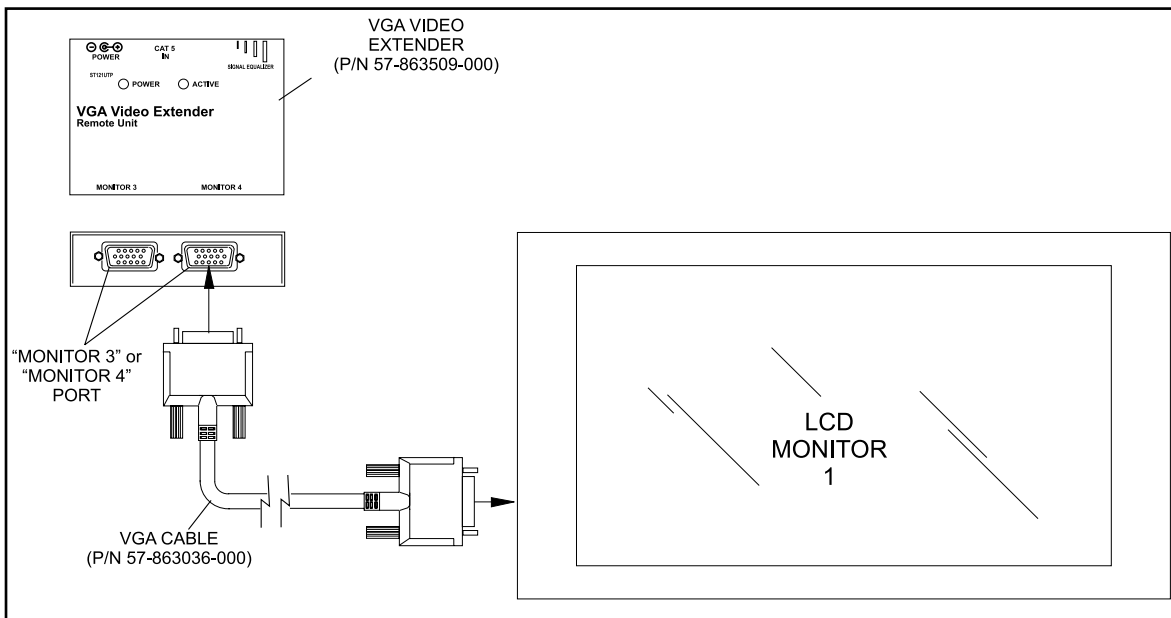

Figure 4. VGA Cable
4. Connect the VGA Cable (P/N 57-863036-000) to “MONITOR 3” on the VGA Video Extender. Refer to *Figure 4*.